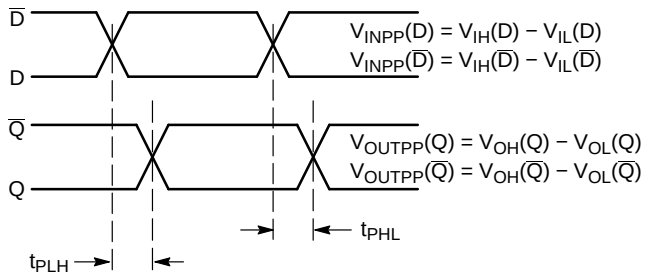

Figure 16. AC Reference Measurement
27. $t_{\text{SKEW}} = |t_{\text{PLH}} - t_{\text{PHL}}|$ for a nominal 50% differential clock input waveform. See Figure 16.